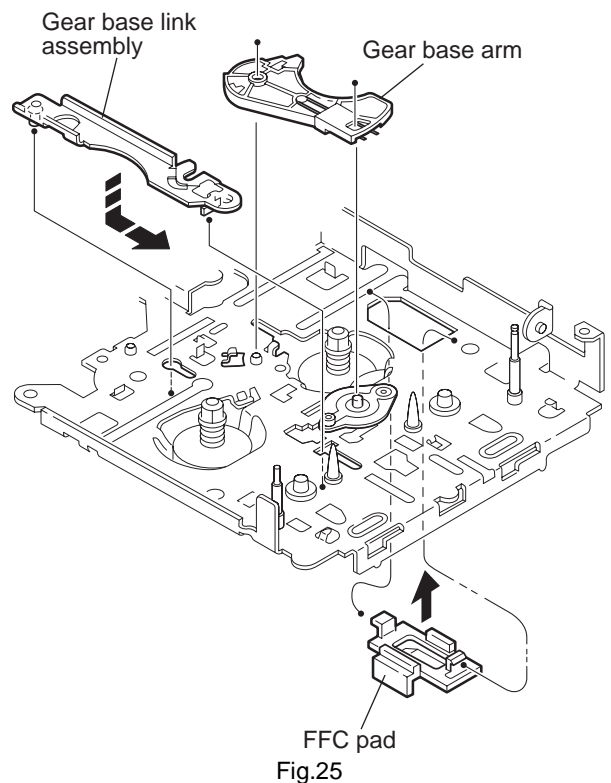

Fig.25
3.2.14 Removing the FFC pad (See Fig.25 and 27)